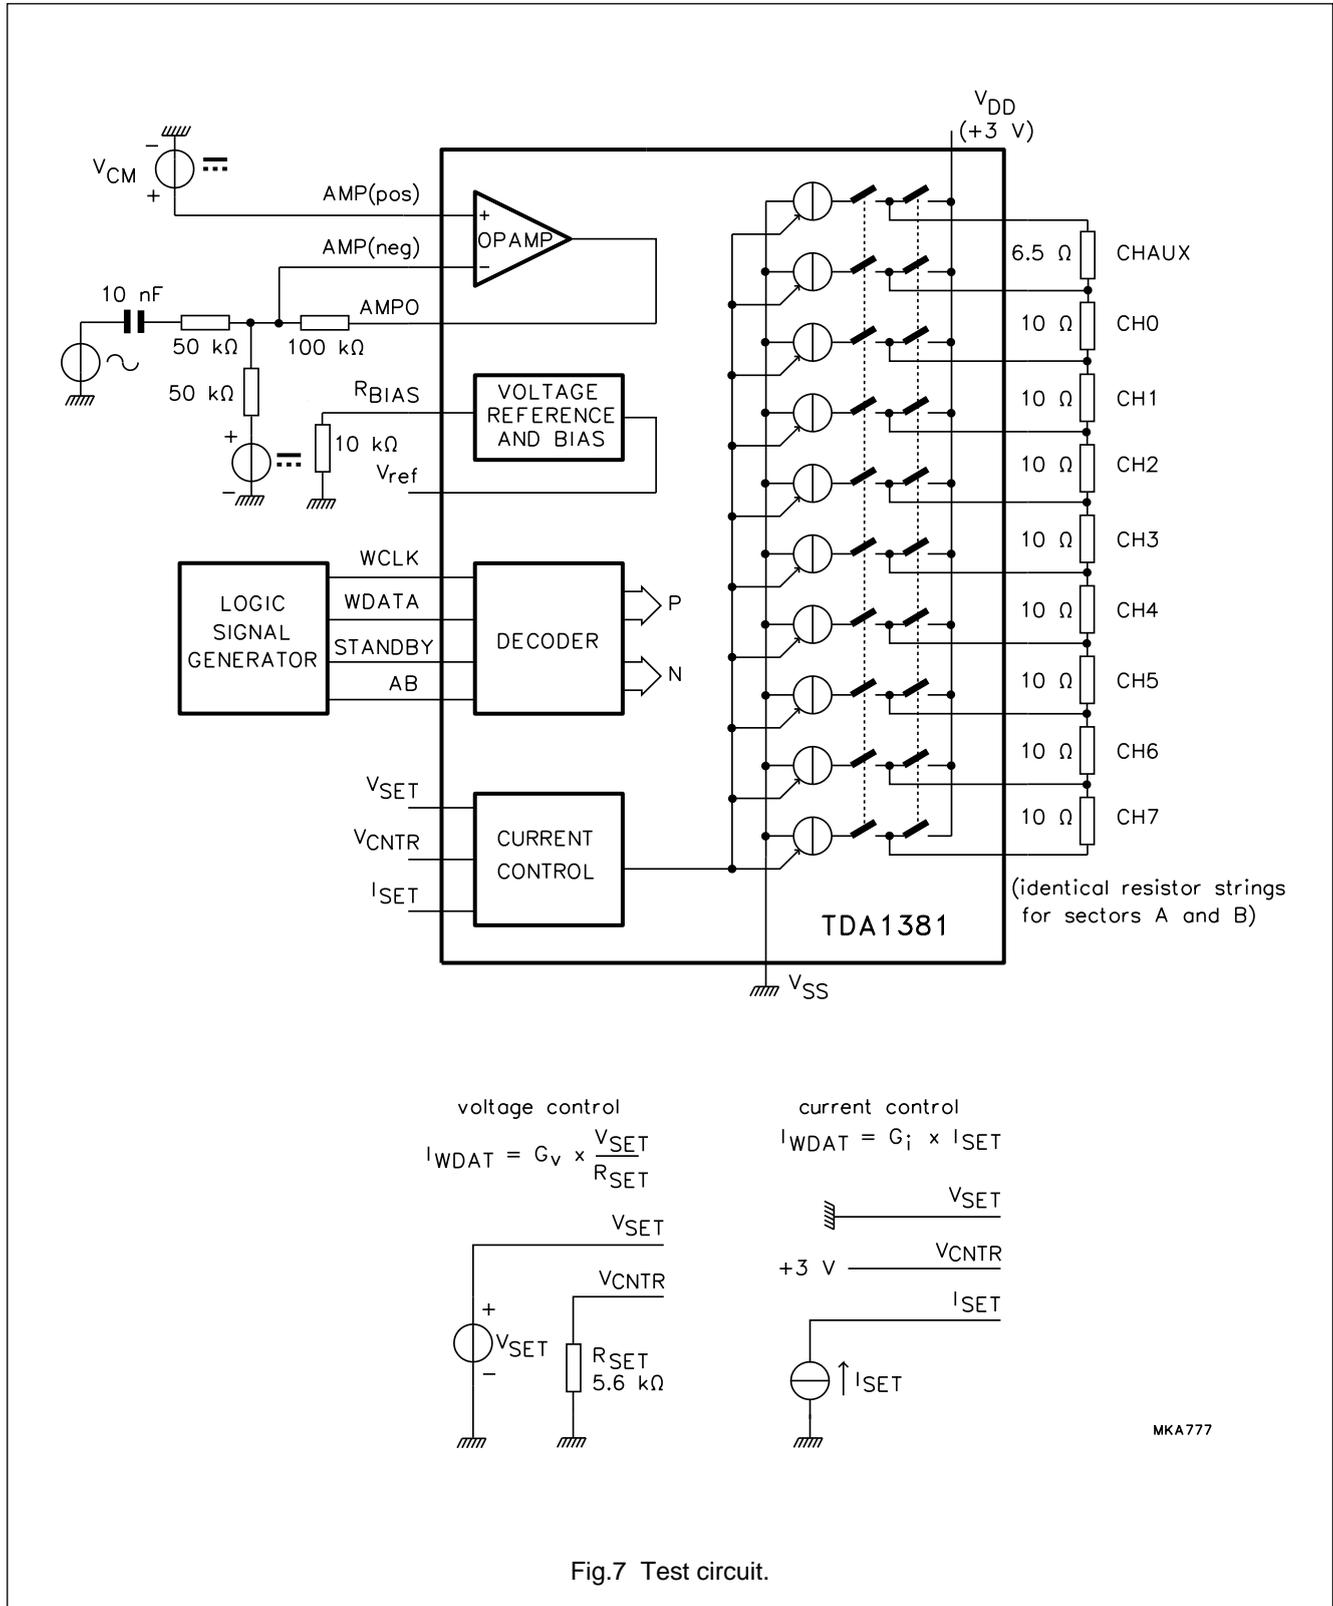

Fig.7 Test circuit.
$V_{DD} = 3\text{ V}$ (pins 1, 2, 11, 12, 25, 26, 34 and 35 tied together externally); $T_{amb} = 25\text{ °C}$; $f_{clk} = 3.072\text{ MHz}$; measured in test circuit of Fig.7; unless otherwise specified.
5. With constant V_{SET} or I_{SET} (see Fig.7).